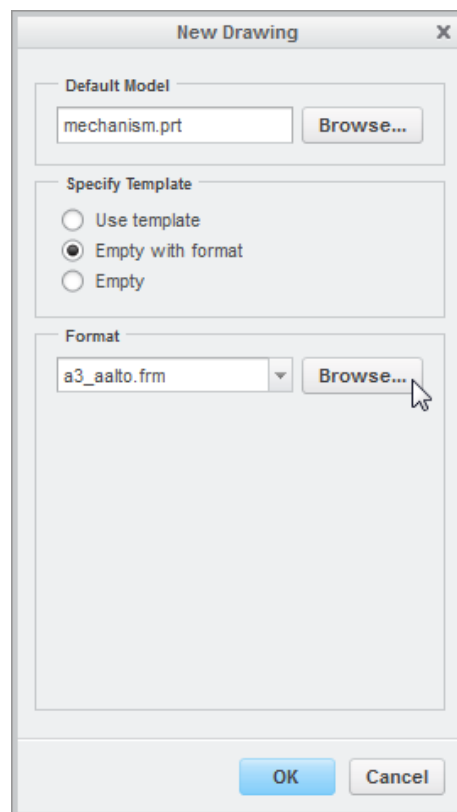

Figure 2: Settings for drawing (mechanism.prt).
3. When modeling at Aalto, it’s recommended to select “*Empty with format*” for the template, and browse for “*A3_AALTO.FRM*” for your drawing format (Figure 2). This will define the paper size, orientation, background graphics and possible information layout automation for parts lists etc.